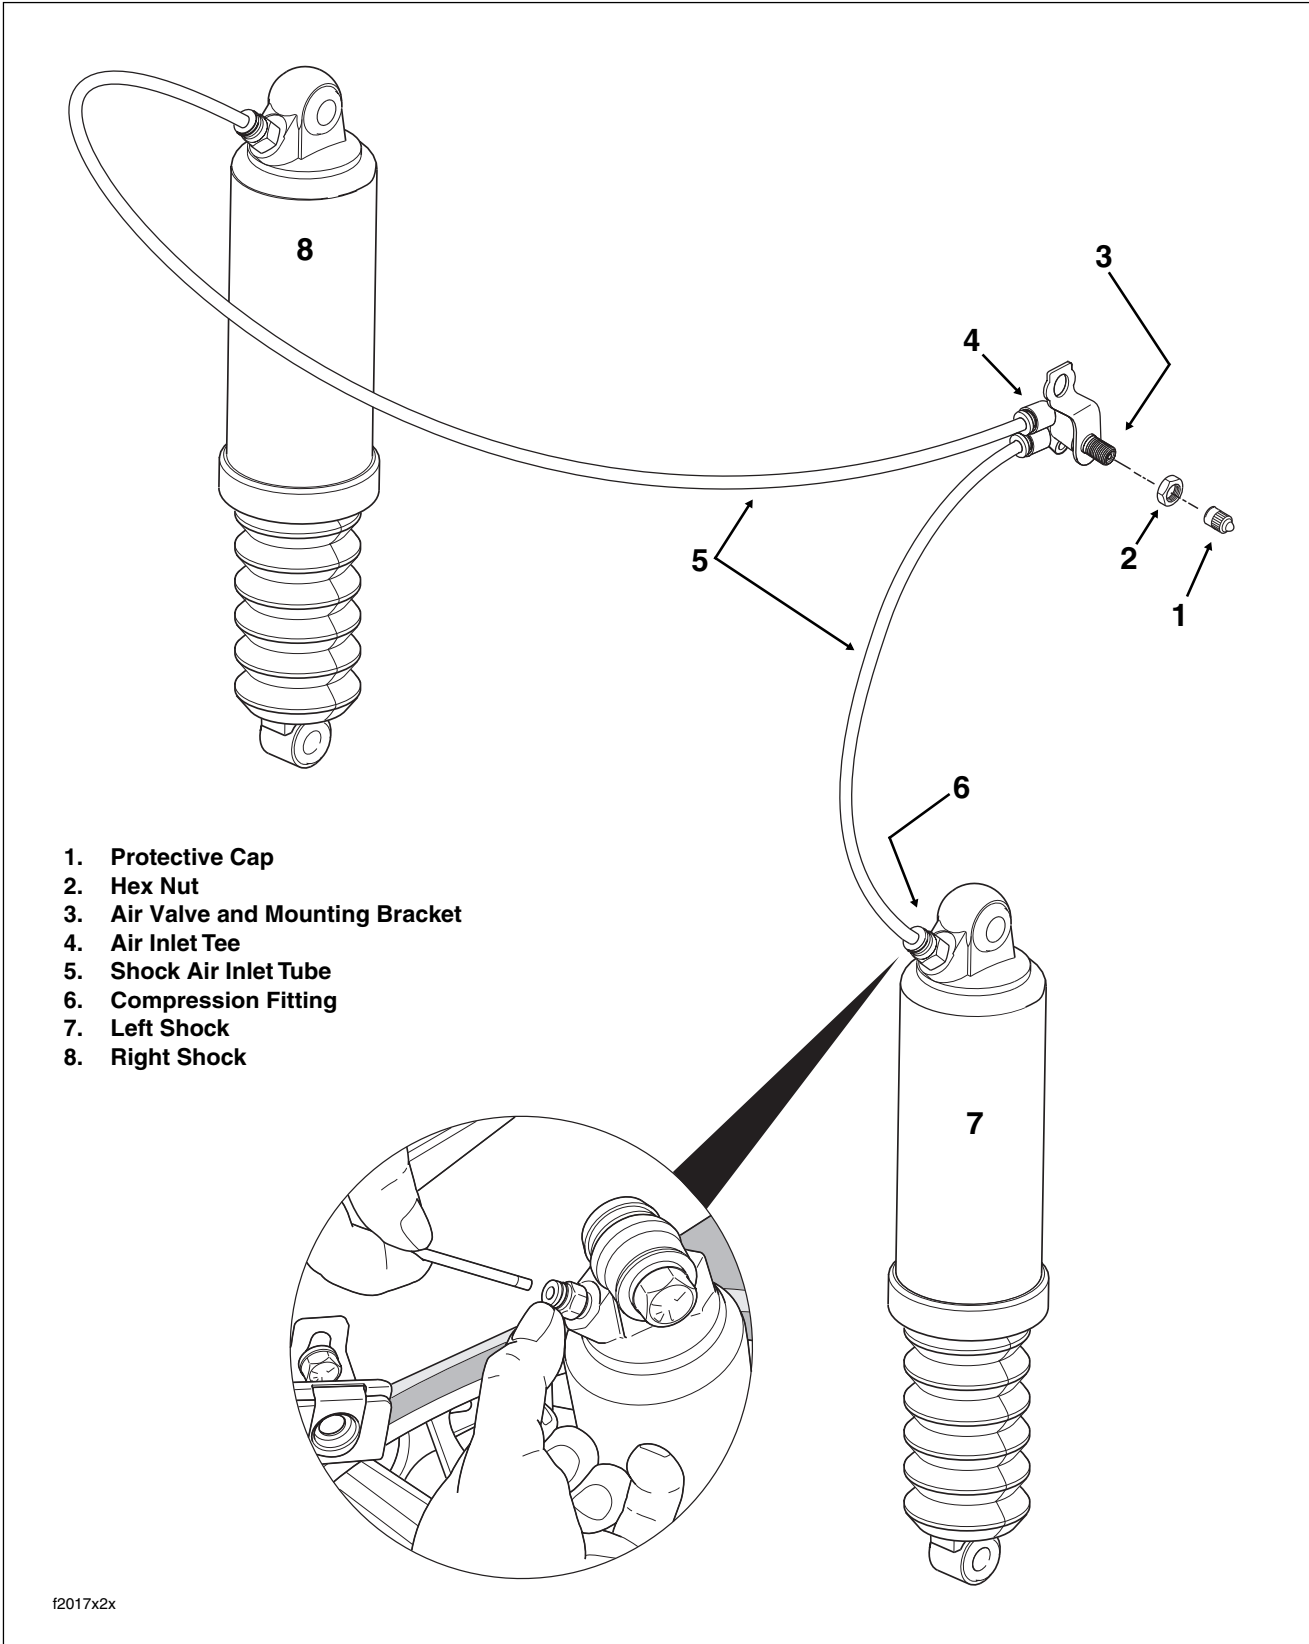

Figure 2-91. Rear Air Suspension System
- b. Depress collar on compression fitting and pull out air tube. See inset of Figure 2-91. Inspect the tube end for burrs or damage. If either condition is observed, snip off the end of the tube and insert it back into the compression fitting until it bottoms. Gently tug on tube to verify that it is locked in place.
- g. Remove hex nut from valve head. See Figure 2-91.
- c. Depress collars on air inlet tee and pull out air tubes. Remove opposite end of tubes from compression fittings. See Figure 2-91.